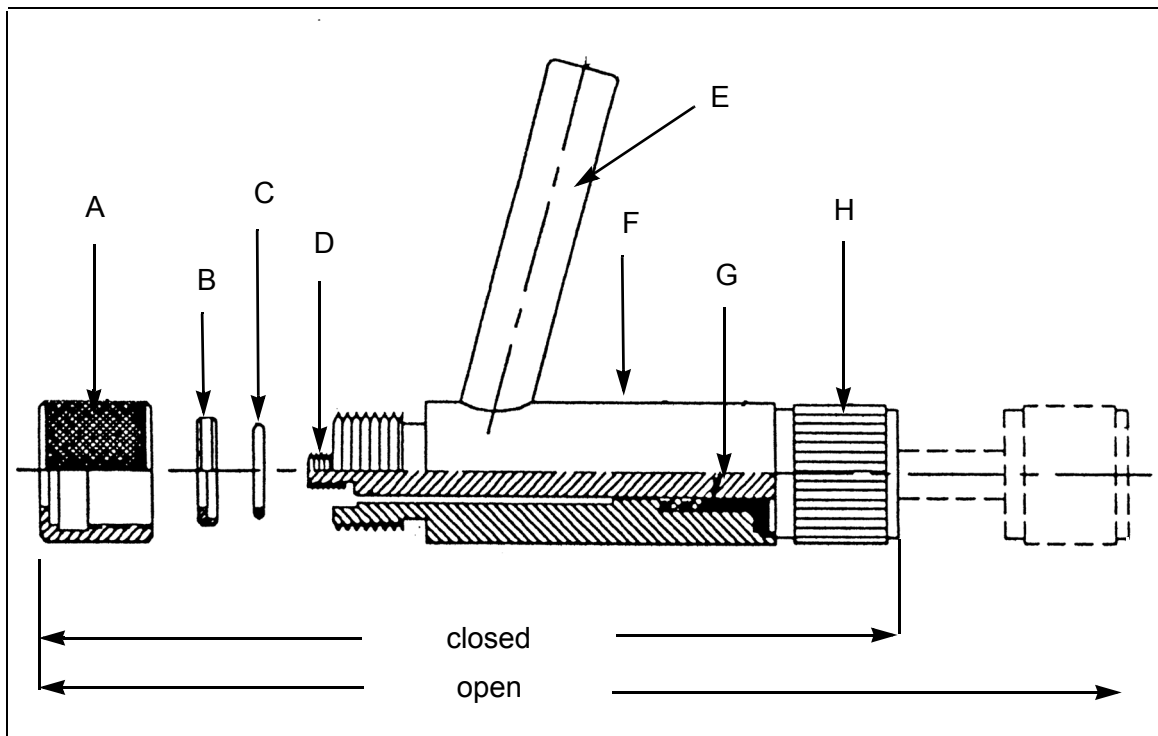

Figure 64: Vacuum Adapter - Cross Section
- 2 Connect the connecting piece of the vacuum adapter (E in figure 64) to the vacuum pump. (The connecting piece has an OD of 9.7mm.)
- 3 Pull the knob (H in figure 64) to the open position and loosen the coupling nut (A in figure 64).
- 5 Push the knob in the closed position until the threaded rod (D in figure 64) of the vacuum adapter is in contact with the dewar evacuation valve.